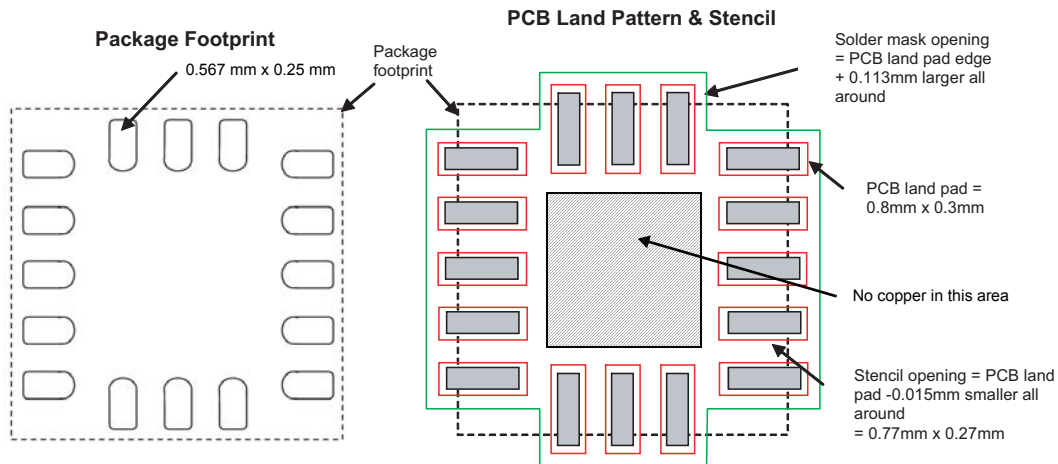
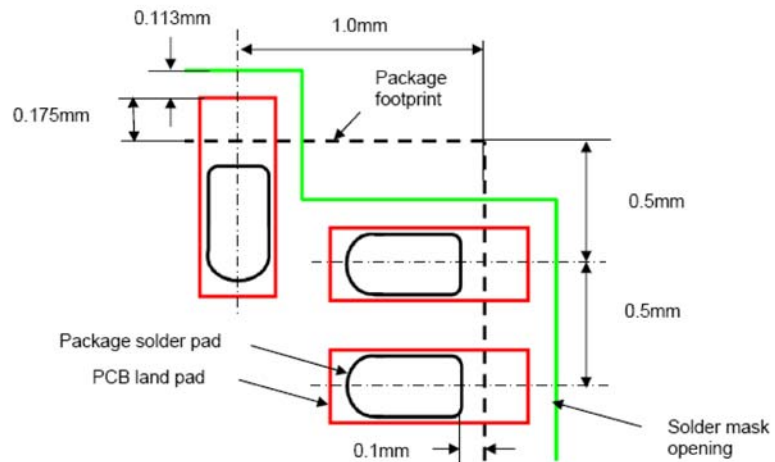

Fig 24. Recommended PCB land pattern, solder mask, and stencil opening near package footprint
Fig 25. Detailed dimensions
- The PCB land should be designed with non-solder mask defined (NSMD) as shown in Figure 24 and Figure 25.
- PCB land pad is 0.8 mm by 0.3 mm as shown in Figure 24 and Figure 25.